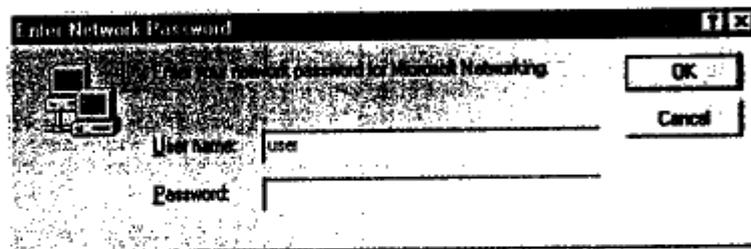

Figure 4-1
1. After finishing installing the driver and rebooting the computer as described in Chapter 3, the computer will show a dialog box titled "Enter Network Password" dialog box as shown in Figure 4-1. Enter your password if it had been set or just click "Cancel".